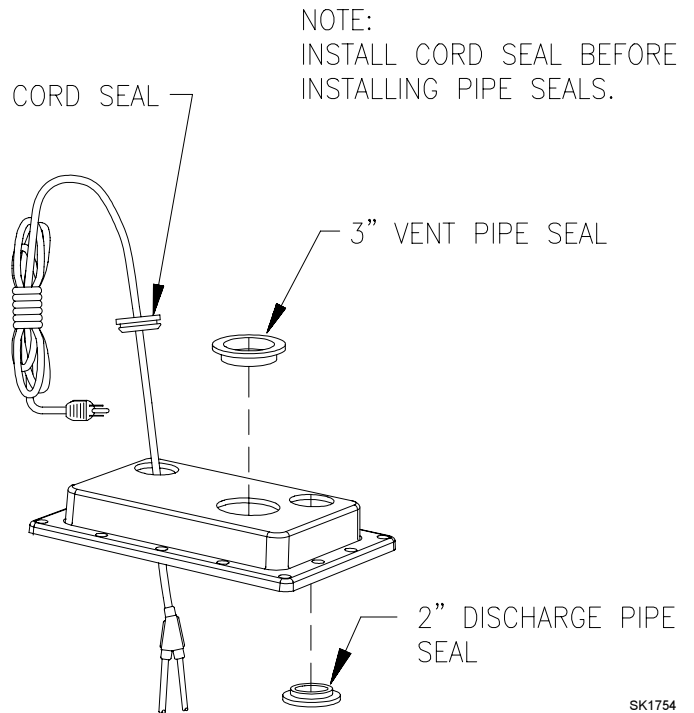

Figure 7.2
- 7.2) Install the Lid components as shown in Figure 7.2.